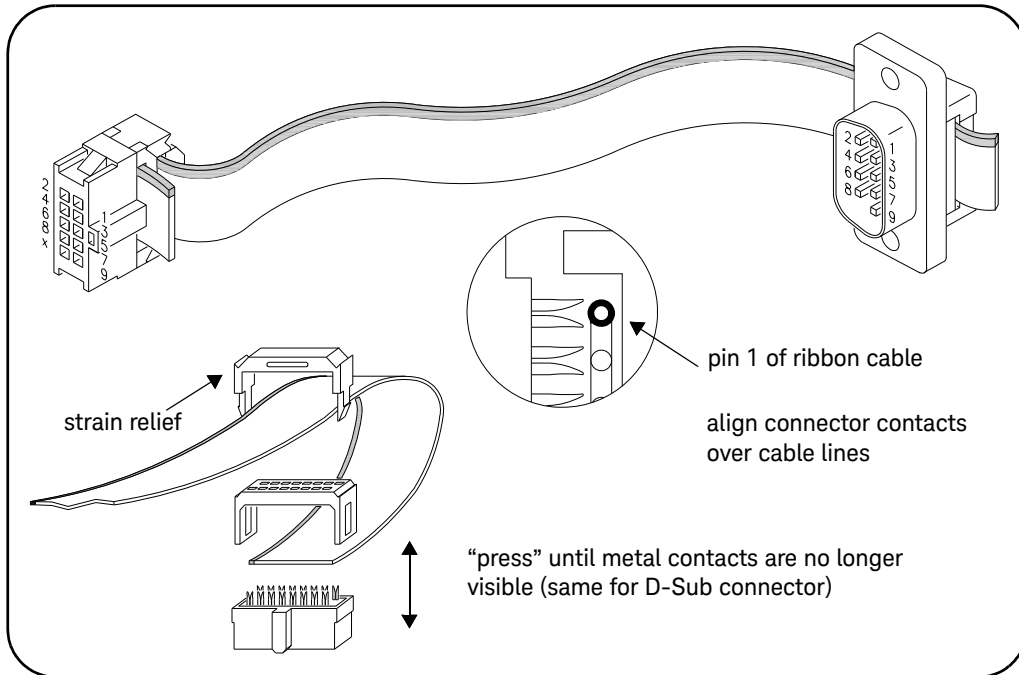

Figure 1-2 Y1157A Connector Orientation and Ribbon Cable Routing.
- 2** Position the D-Sub connector and the ribbon cable connector as shown in Figure 1-2. Route the cable **through** the connectors, noting the location of cable pin 1. By convention, pin 1 is indicated in red (the dark line in the drawing).
- 4 Align the metal contacts of the ribbon connector over cable pin 1 (Figure 1-2) and the other pins, press the ribbon cable connector onto the cable using a vise or clamp to press the contacts **evenly** through the cable insulation. Continue to press the connector until the metal contacts are no longer visible.
- 5 Fasten the strain relief clamp over the cable and into the ribbon cable connector as shown in Figure 1-2. Remove any excess cable after the clamp is in place.